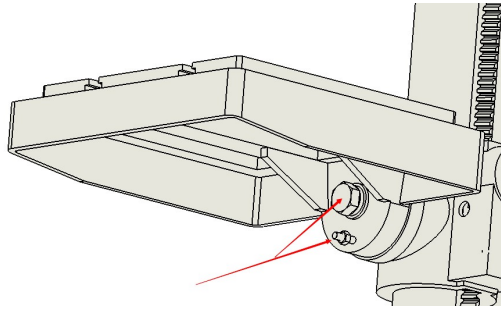

Figure 14
Step 5 when work table recovery level, the pin nut back a few buttons, enter the pin hole, and tighten the connecting bolt. Figure 14